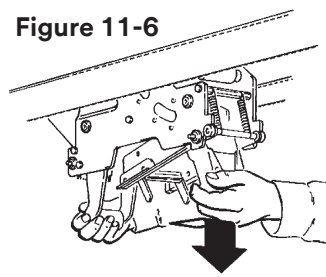

Figure 11-6
3. Hold upper taping head applying and buffing arms from under upper assembly, slide head forward and down to remove (Figure 11-6).